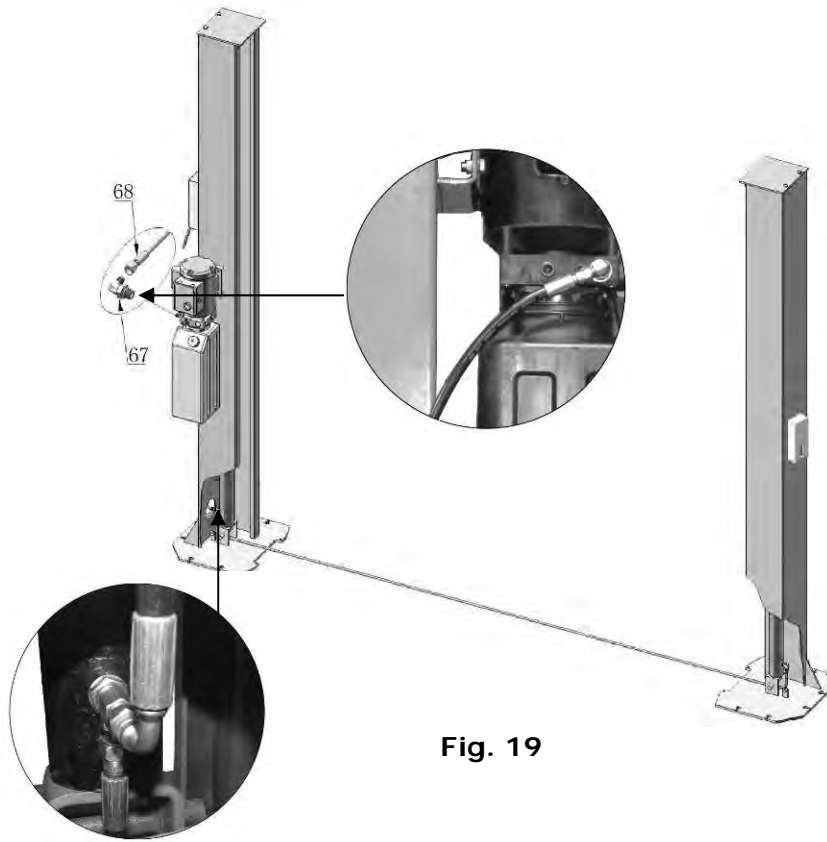

Fig. 19
K. Install Hydraulic Power Unit and the Hydraulic Hose (See Fig. 19).